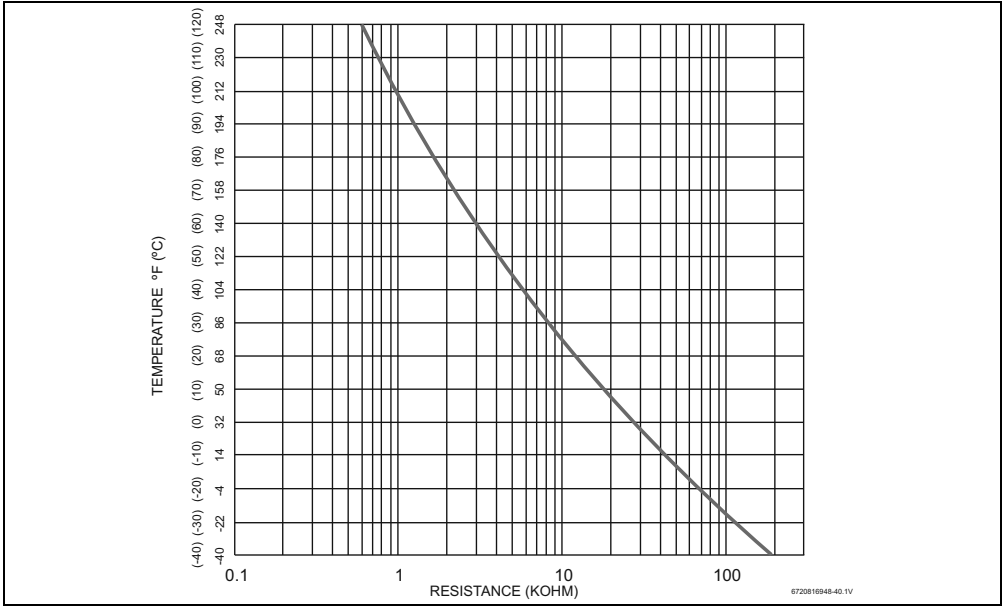

Fig. 62 Inlet, outlet and heat exchanger water temperature sensors characteristics
2) see temperature resistance charts in fig. 62 and 63.